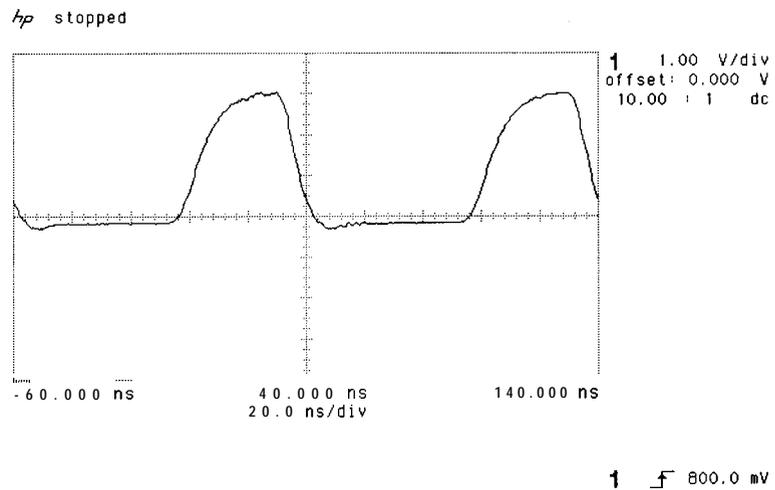

Figure 3-58. Typical Signal at A16TP3
- 2 1. Oscilloscope display should be a 10 MHz signal of TTL level; less than +0.8V to greater than +2.7V. See Figure 3-58 for a typical signal.